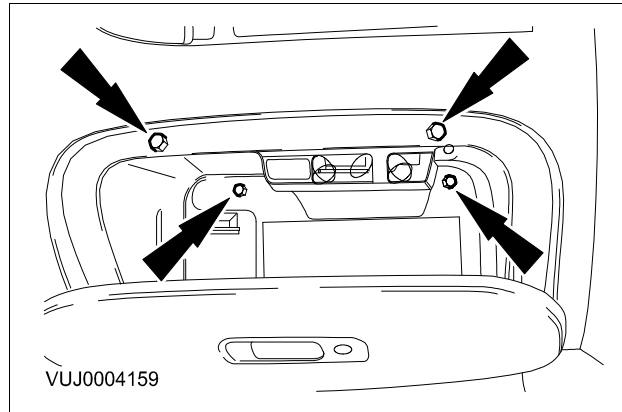

Fig. 2
- 7 Remove the glove compartment retaining screws (see Fig. 2).